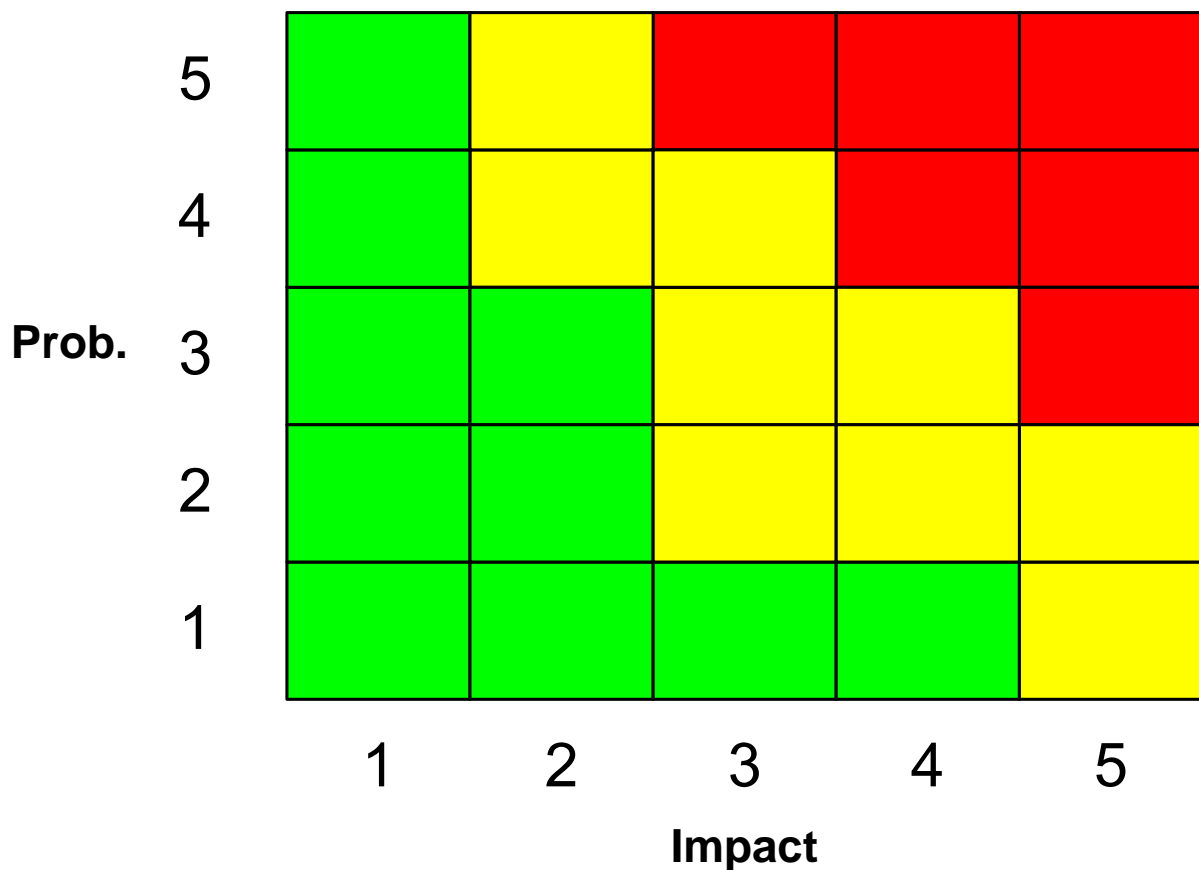

Figure 3. Probability-Impact Diagram (PID)
All ESMD organizations shall use the 5x5 Probability–Impact Diagram (PID), shown in Figure 3, to score their risks. Red risks are termed “High”, Yellow as “Moderate”, and Green as “Low”. A probability (P) of between 1 and 5 and an impact (I) of between 1 and 5 maps to a risk score in the PID. ESMD has biased the PID color scheme with “Impact” having a slightly larger effect than “Probability” on the overall score.